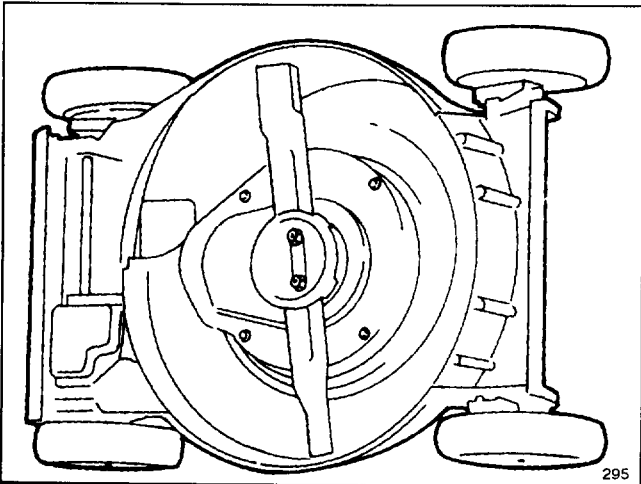

Figure 31
3. Tip mower on its left side (Fig. 31).